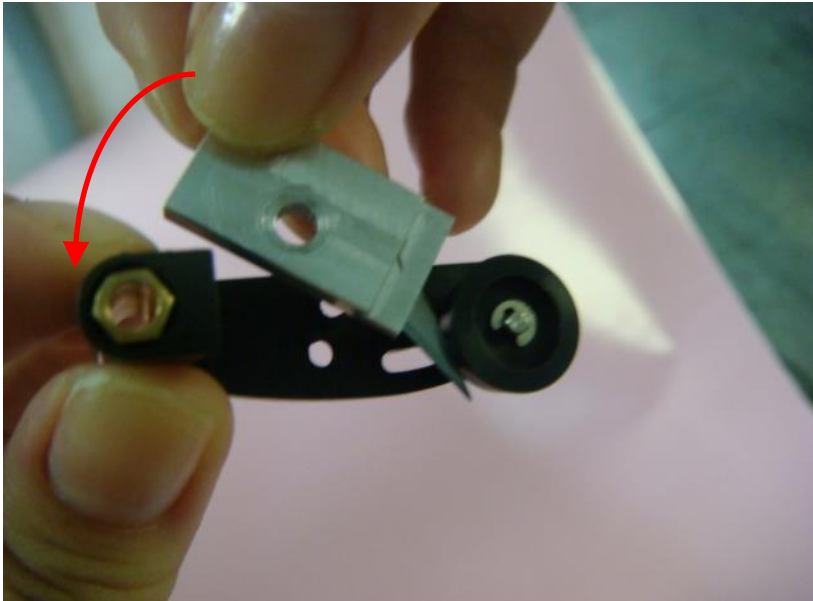
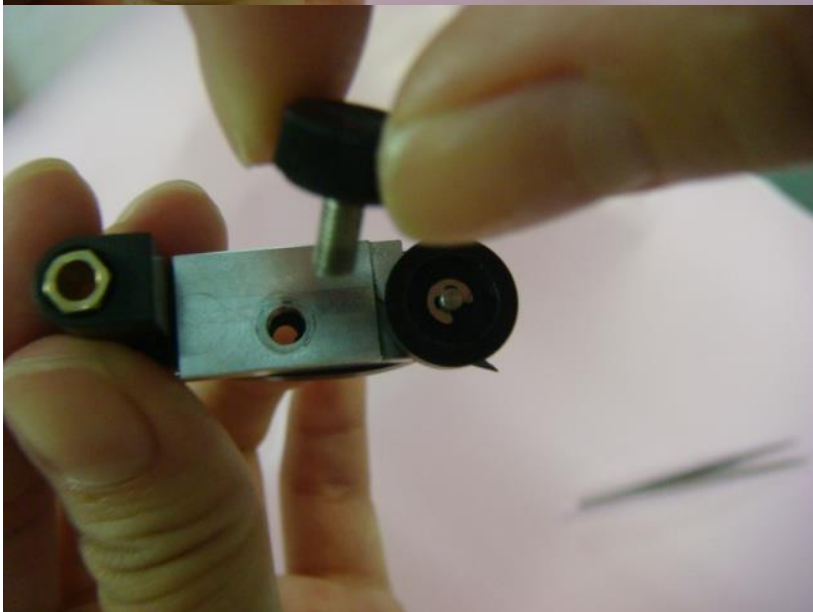

Figure 2-47
Figure 2-49
Step 8 Assemble the Cut-off Blade Fixer back to the Cut-off Unit by pushing the Holder downwards (Figure 2-47 and 2-48) and attach the screw (Figure 2-49).